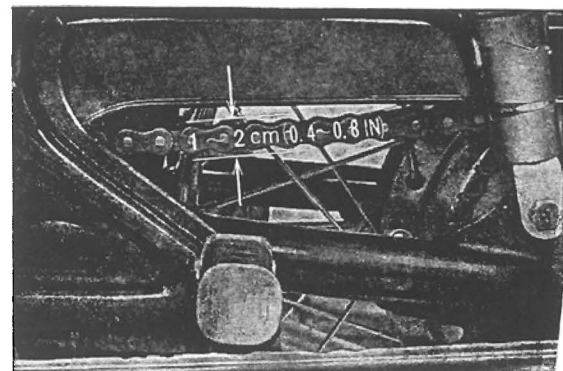

Fig. 6.35 Drive chain slackness
- a. The maximum slackness when measured by moving the drive chain vertically is 1 to 2 cm (0.4~0.8 in). (Fig. 6.35)